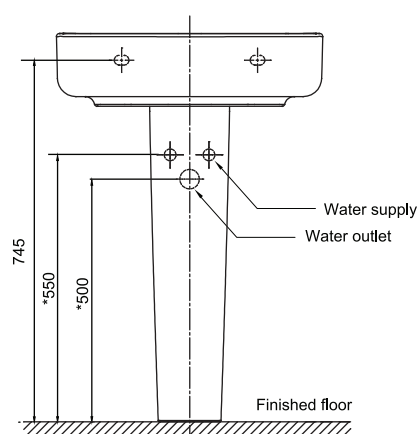

Fig.2
- Fig.2 for installing with full-pedestal (TF-0742)